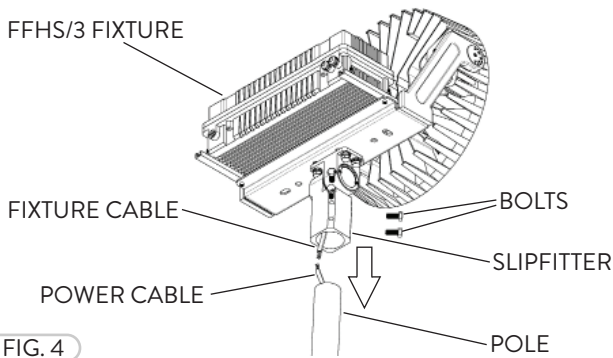

FIG. 4
- 2 The Slipfitter (inside diameter 2 3/8") can be mounted to fit 2" Nominal Round Poles. Loosen the Slipfitter Bolts or remove if needed. Attach the Power Cable to the Fixture Cable and install the FFHS/3 fixture with the Slipfitter onto the Pole (Fig. 4). Tighten the bolts to secure the Slipfitter to the Pole.